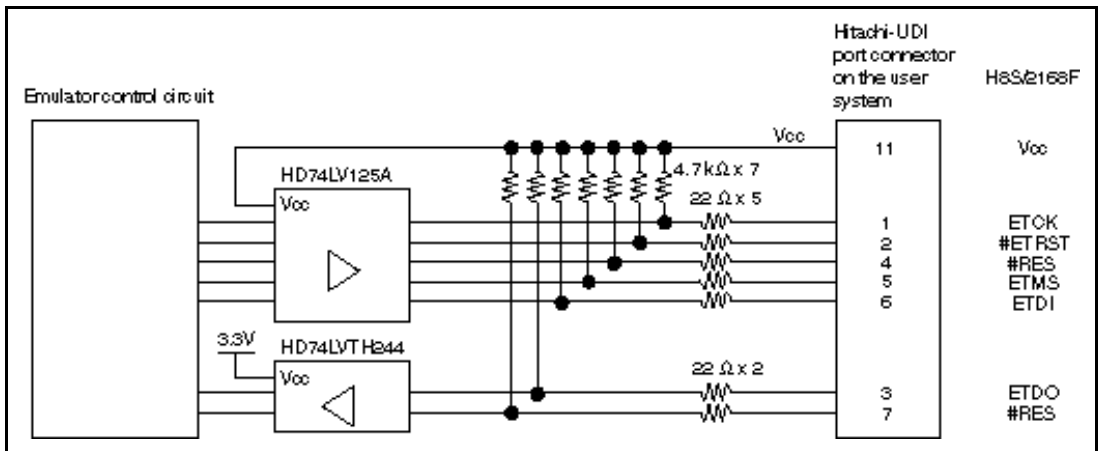

Figure 4.6 Interface Circuit in the Emulator (Reference)
7. Figure 4.6 shows the interface circuit in the emulator. Use this figure as a reference when determining the pull-up resistance value.